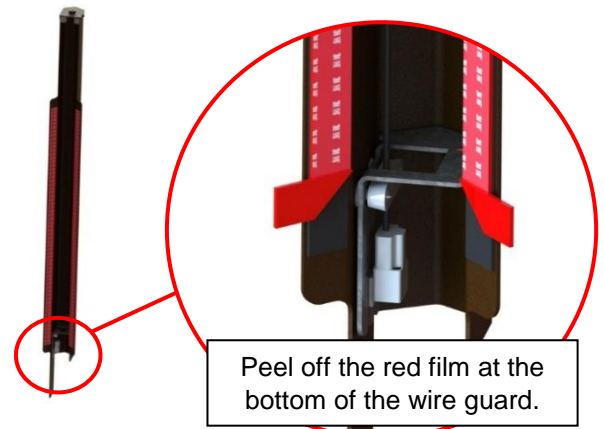

Figure 66
- 11) Peel a small corner off the red plastic film on the double-sided tape, fold this tape toward the outside. (Do this step for both sides) (Figure 66)